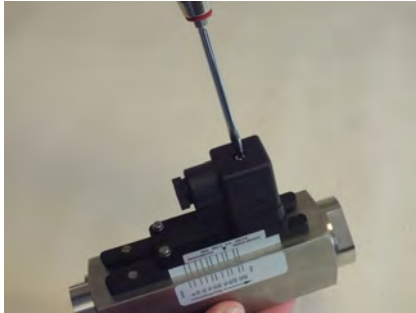

Fig. 65: Loosen female socket
1. ➤ Loosen the fixing screw of the female socket (Fig. 65) with a flat-bladed screwdriver.